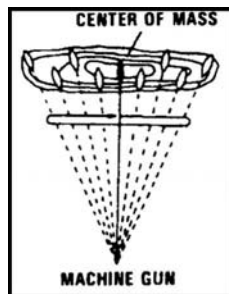

Figure 5. Center of mass.
- b. Fire six- to nine-round bursts until you hit the center mass of the target area (Figure 5).